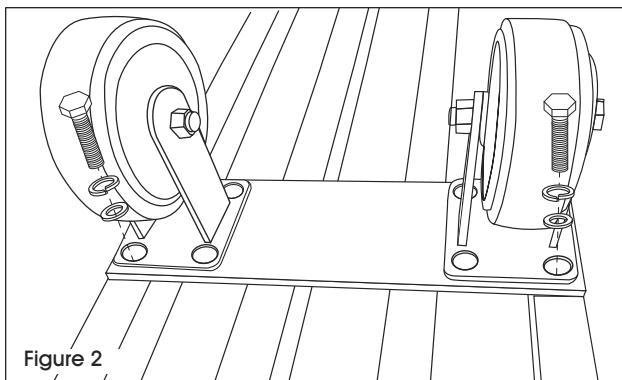

Figure 2
2. Mount large center casters to outer sides of deck with short hex bolts, large lock washers and large washers. Insert bolts down into deck. (See Figure 2)